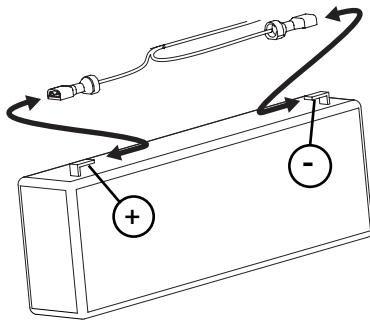

Figure 6-8
5. Connect the red positive lead to the red positive (+) terminal. Connect the black negative lead to the black negative (-) terminal. See Figure 6-8.